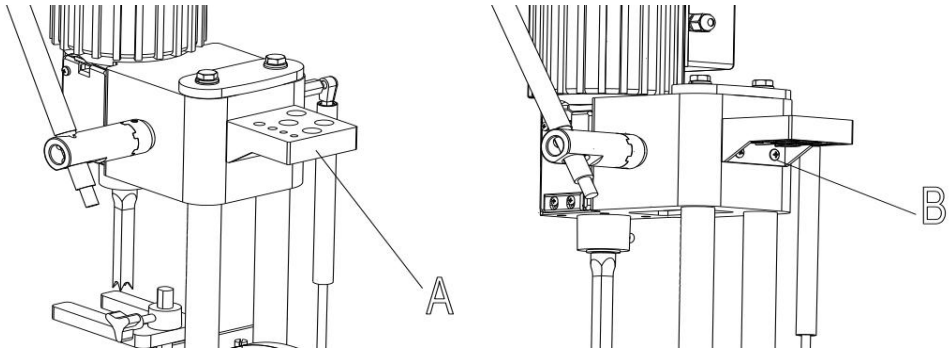

Fig8
1.Assemble tool and chisel holder (A) Fig8, to side of column using the two M6x1x25mm screws (B) and M6 flat washers as shown.